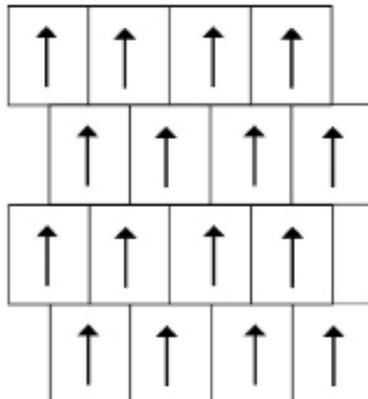

Figure 2
- For all collections, the tiles can be laid in the same direction, if installed in ashlar (brick-lay) pattern as in fig 2.